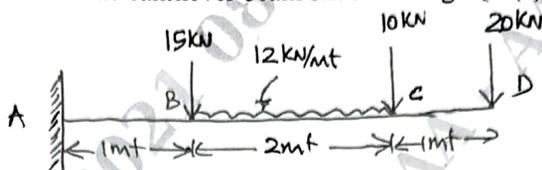

Fig. Q3 (c)
c. Draw the SFD and BMD for the cantilever beam shown in Fig. Q3 (c) (07 Marks)